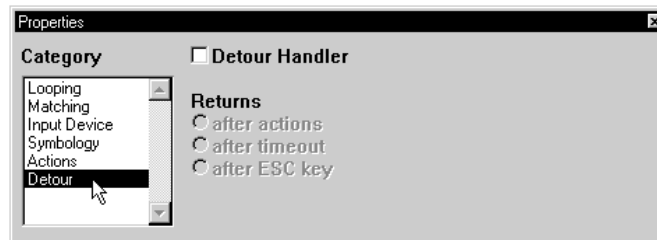

Figure 4-43 Properties Window - Detour Category
16. Click **Detour** from the **Category** list to select the Detour category (Figure 4-43).